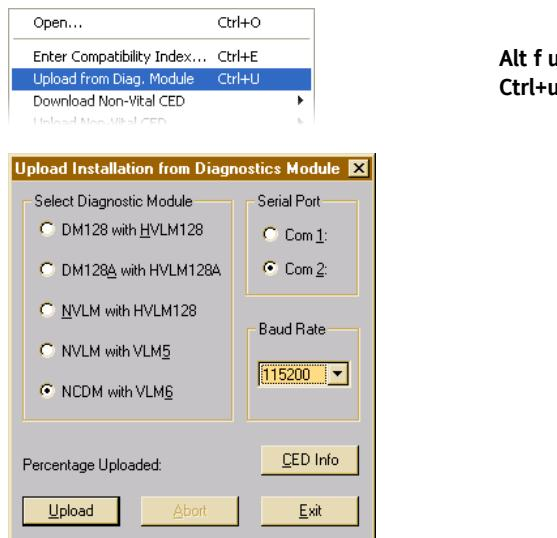

Figure 3.6 Upload from Diagnostic Module dialog box
- f) Click **CED Info** (figure 3.6) to check and ensure the correct data is stored in the VLM PROMs (DM128 with HVLM128, or DM128A with HVLM128A only).
- g) Click **Upload** (figure 3.6).